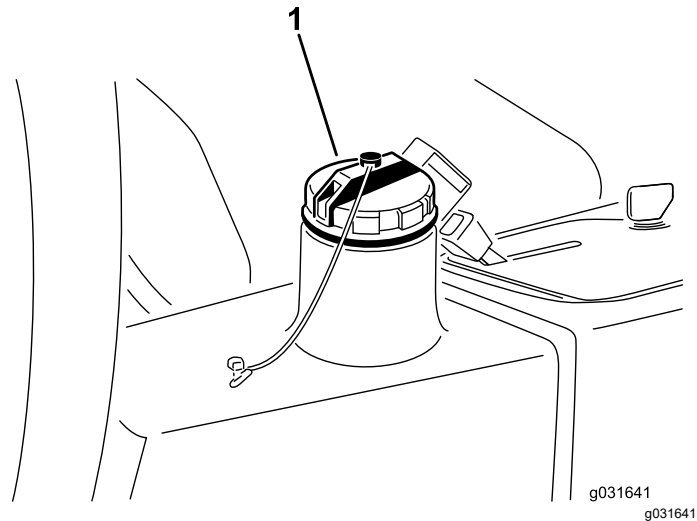

**Figure 65**
2. Disconnect the hydraulic line or remove the hydraulic filter and let the hydraulic fluid flow into a drain pan (Figure 67 and Figure 65).
3. Install the hydraulic line when the hydraulic fluid stops draining (Figure 65).